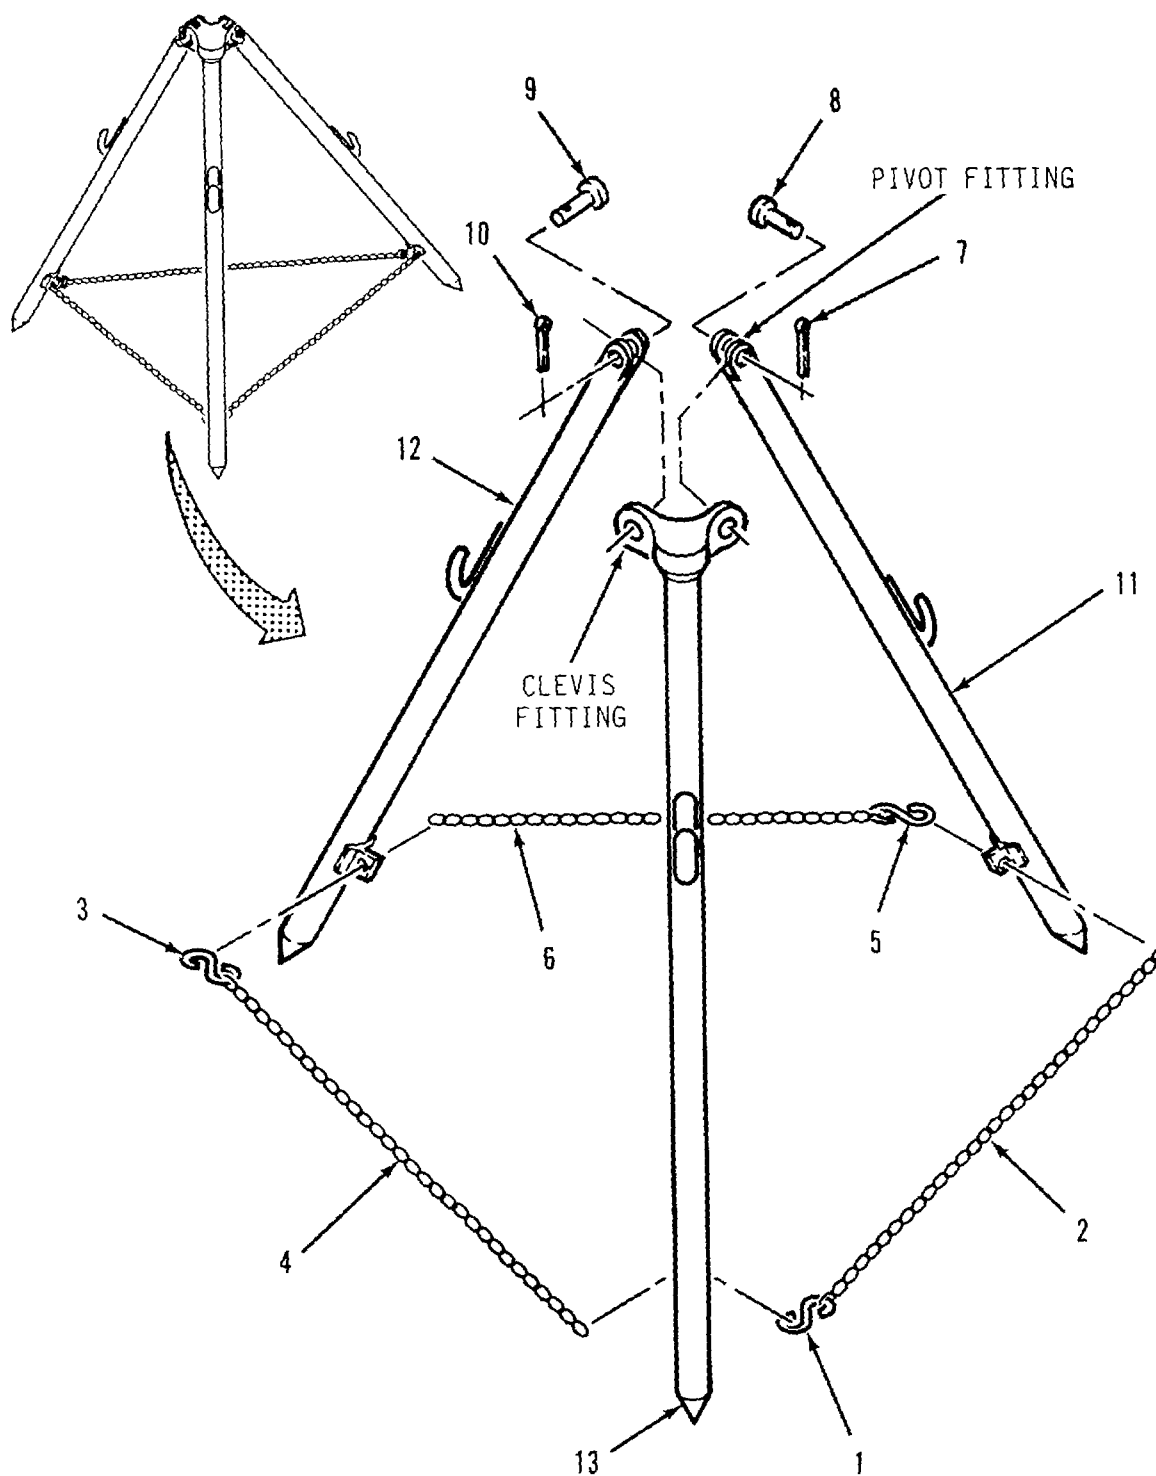

Figure 4-13. Nozzle Stand Repair.
- a. Disassembly. Refer to figure 4-13.
- (1) Unbend and remove S-hooks (1, 3 and 5) and disconnect chains (2, 4 and 6).
- (2) Remove cotter pin (7) and straight pin (8), then remove leg (11) from leg (13).
- (3) Remove cotter pin (10) and straight pin (9), then remove leg (12) from leg (13).
- (1) Wash all components with clean water and detergent.
- (2) Rinse components in clean water and dry with wiping rag.
- c. Inspection. Refer to figure 4-13.
- (1) Inspect legs (11, 12 and 13) for cracks, broken clevis ends and bent or missing nozzle hangers.
- (2) Inspect chains (2, 4 and 6) for broken links.
- e. Assembly. Refer to figure 4-13.
- (1) Position clevis fitting on leg (12) over pivot fitting on leg (13).
- (2) Install straight pin (9) through pivot fitting and clevis. Install cotter pin (10) in straight pin
- (3) Aline clevis fitting on leg (13) with pivot fitting on leg (1).
- (4) Install straight pin (8). Install cotter pin (7) in straight pin.
- (5) Connect chains (2, 4, and 6) to legs (11, 12, and 13) with S-hooks (1, 3 and 5).